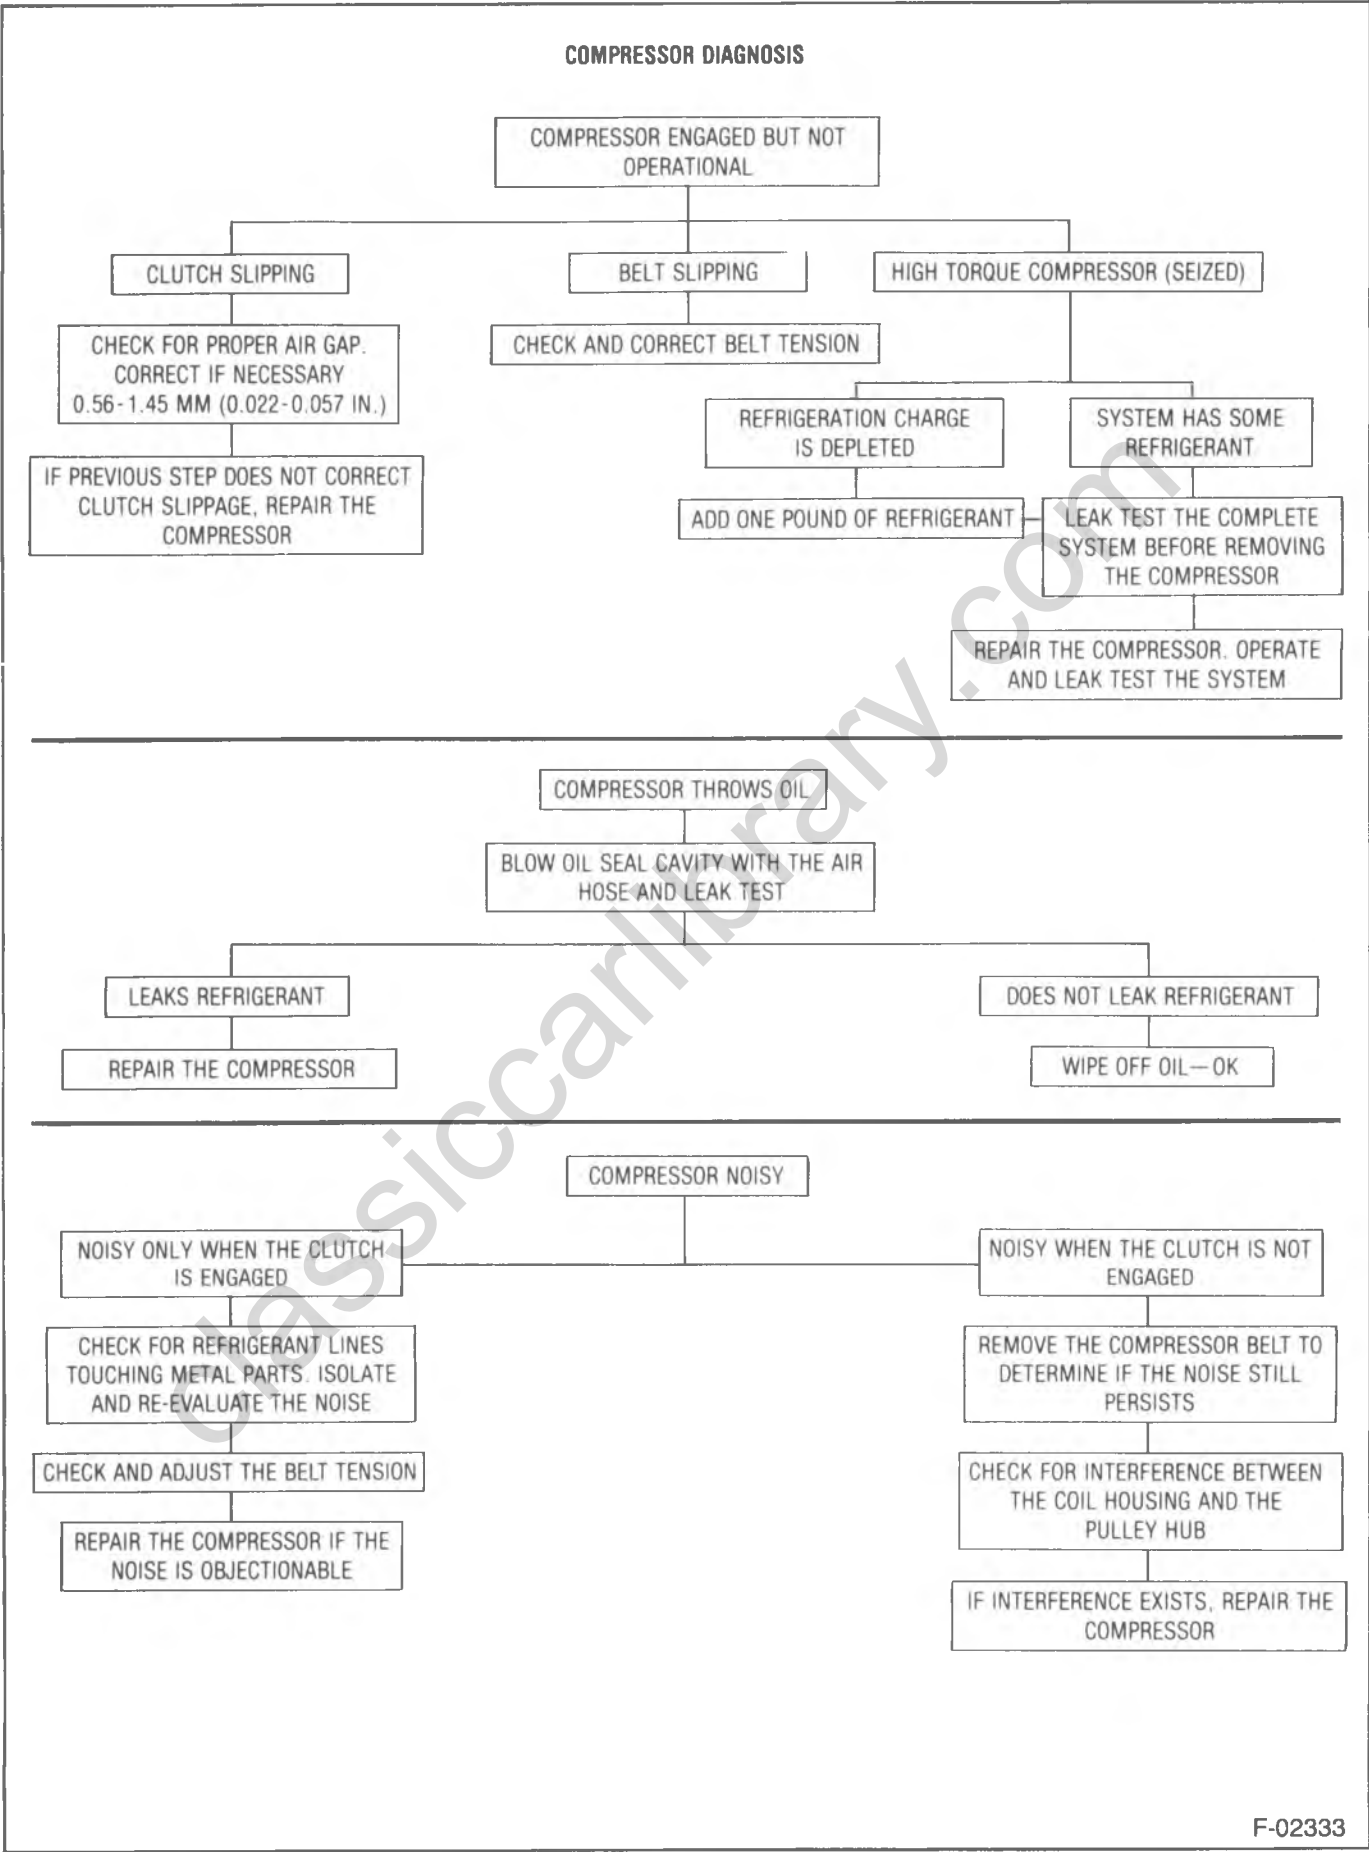

Figure 16—Compressor Diagnosis
- 2. Compressor Diagnosis (figure 16).